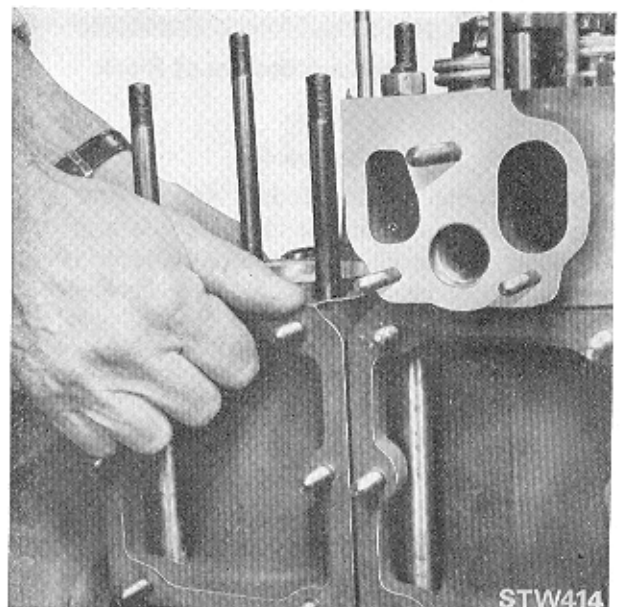

Fig. 77. Removing Cylinder Block
- (h) Note position of barrel for refitting and remove piston, connecting rod and barrel as a complete unit (Fig. 77).